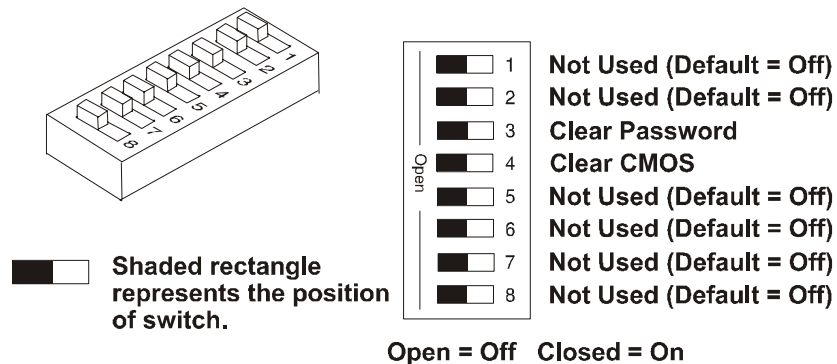

Figure 4-1. Configuration Switch Positions
2. Move switch 4 in the configuration switch on the system board (labeled "Clear CMOS") to the ON position. See Figure 4-1.